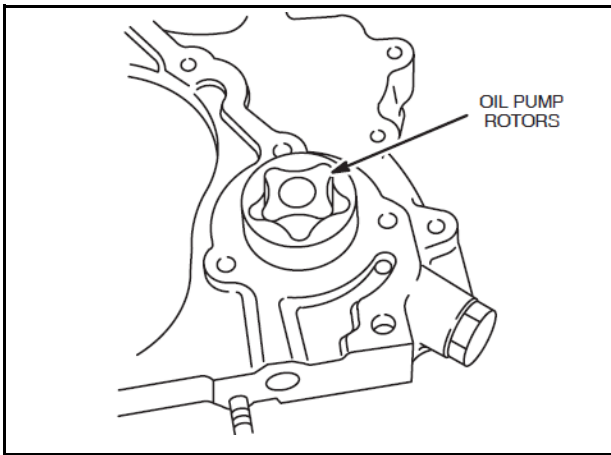

Fig. 5 - Inspect Rotors
2. Inspect rotors for wear or damage, Fig. 5.